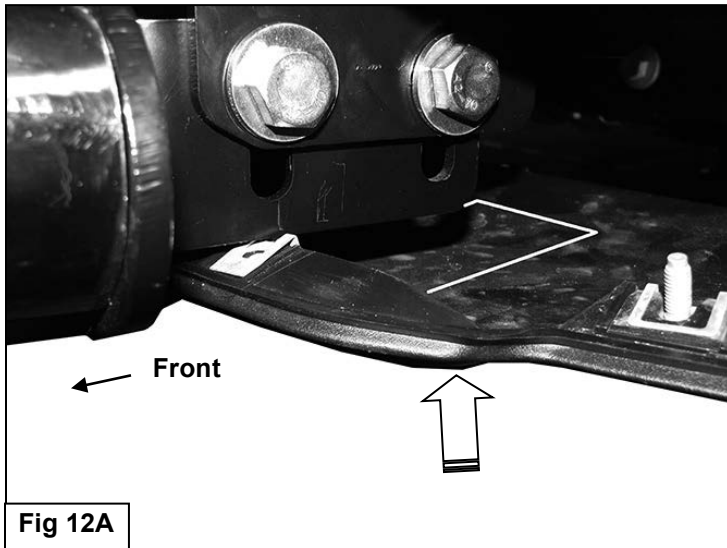

**Fig 11**
- With assistance, line up the mounting tabs on the Bull Bar with the inside of the **(2)** previously installed Frame Mounting Brackets. Bolt the Bull Bar to the Brackets with the included **(4) 10mm x 35mm Hex Bolts, (8) 10mm Flat Washers, (4) 10mm Nylon Lock Nuts, (Figure 11)**. Snug but do not tighten hardware at this time.